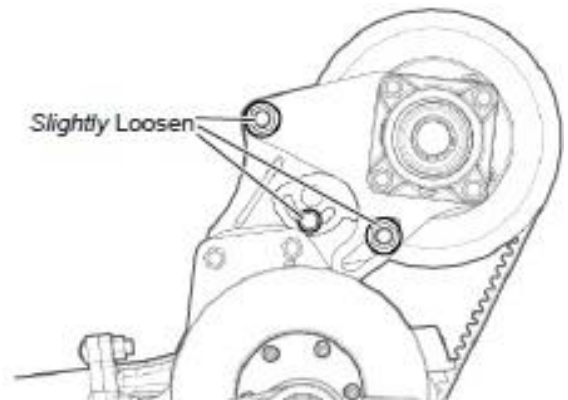

Figure 61
6. Slightly loosen the lock bolt and two lock nuts shown below. DO NOT remove them. Figure 61